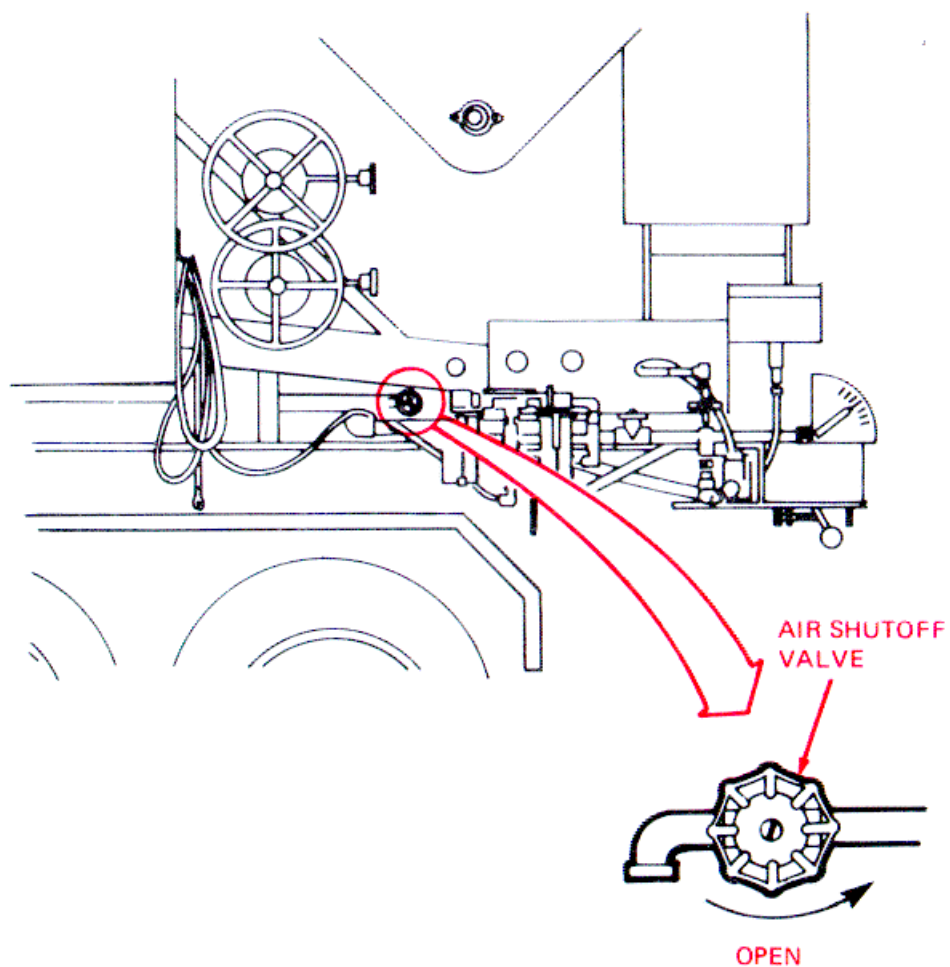

Figure 2-26. Air Shutoff Valve.
- f. Open Air Shutoff Valve. (See fig. 2-26.) Turn counterclockwise all the way.